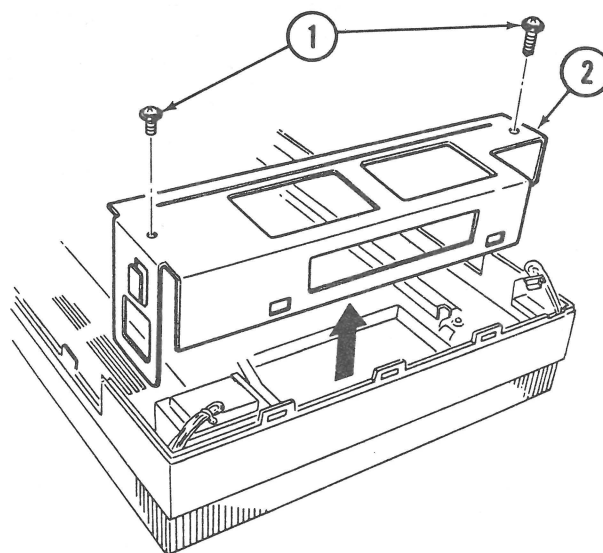

FIGURE 5
5. Remove the two screws (Figure 5, #1) holding the front plate (Figure 5, #2).